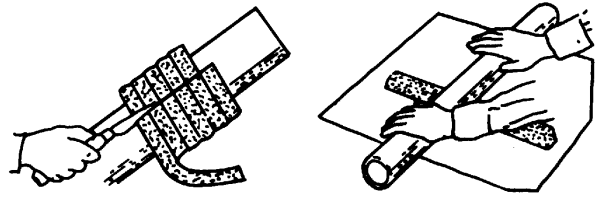

Figure F-9A.
Step 1: Determine how much bulk packing will be required to fill the seal cavity and wrap it around a rod the same diameter as the shaft. With the packing wrapped around the rod, cut through each turn as shown in Figure F-9A.